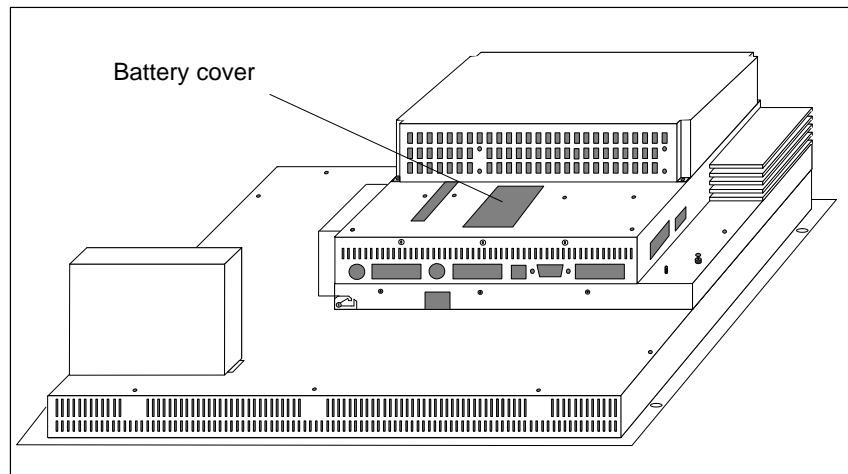

Figure 6-13 Position of battery cover
1. If you have fitted a direct key module, you must unscrew it (Chapter 5.2.1) in order to gain access to the battery cover (see Figure 6-13).